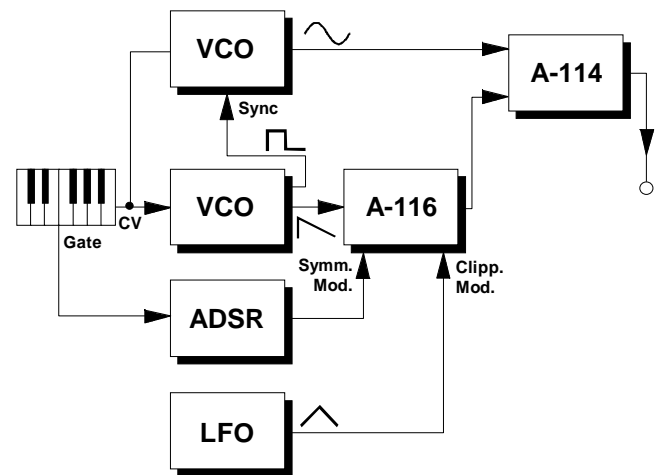

Fig. 4: The A-116 used in combination with a ring modulator and synced VCOs.
- D Try using as an input the signal coming from a ring modulator or a synced VCO. You can also get interesting results by feeding the output of the A-116 into a ring modulator, or into the sync input socket of a VCO (see Fig. 4).